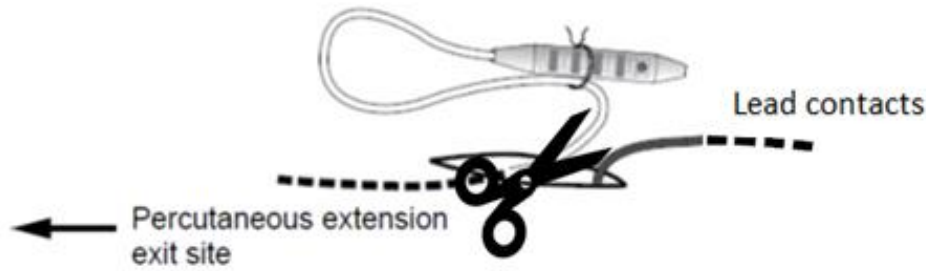

Figure 6. Image showing where to cut the percutaneous extension for removal
- Cut the percutaneous extension near the incision proximal to where it is tied to the connector (Figure 6).